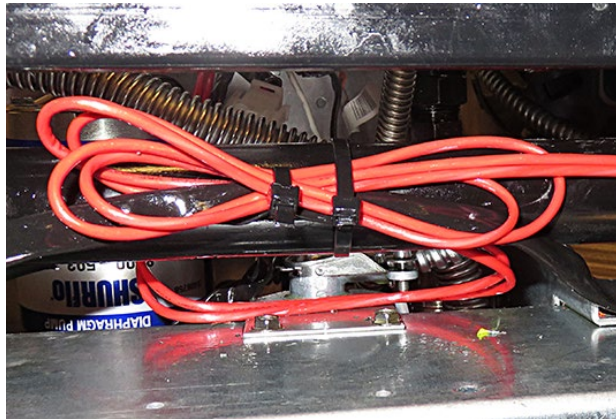

Figure 35
39. Zip tie excess wiring to **GAS manifold** (see Figure 35). **DO NOT TIE**